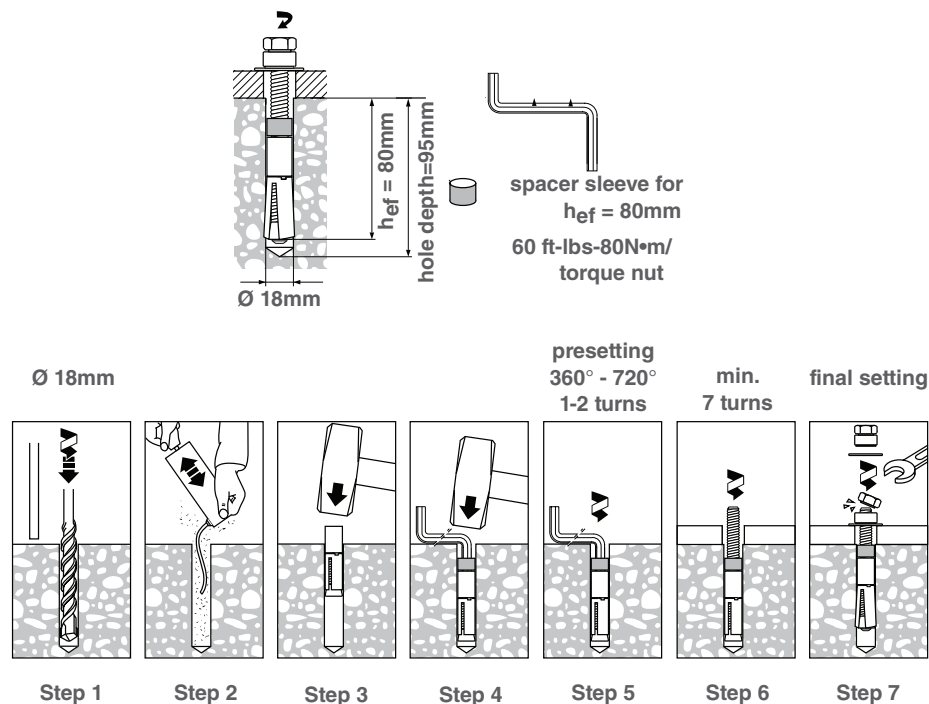

Figure 1 - Anchor Setting Instructions
Refer to the Anchor Setting Instructions in Figure 1 below for this procedure.
1. With a metric carbide or diamond core bit, drill anchor bolt holes in concrete at the locations marked. Hole size should be 18 mm wide x 95 mm deep. (The anchor can be installed in a bottomless hole.) (Figure 1, Step 1)
2. Clean out the holes using a vacuum, compressed air, or a "blow-out bulb" to clear out any debris. (Figure 1, Step 2)
3. Place the anchor into the anchor bolt hole. Use a hammer to tap the anchor into the hole. (Figure 1, Step 3)
4. Insert the torque wrench onto the anchor and use the hammer to tap the anchor into the hole so that it firmly seats against the base plate. (Figure 1, Step 4)
5. Use the torque wrench to preset the anchor 1-2 turns. (Figure 1, Step 5)
7. Place frame over preset anchor locations and rotate each anchor by hand a minimum of 7 turns. (Figure 1, Step 6)
8. Use the torque wrench to tighten the bolt or nut to the specified torque. Holding nut will be correctly set at 60 ft-lbs. (Figure 1, Step 7)